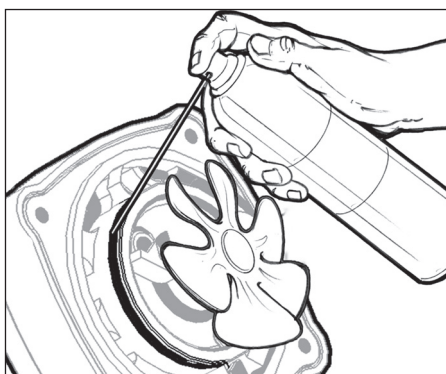

Figure 7
3. In a well-ventilated area, spray the cylinder head with degreaser cleaner. Allow the dirt and debris to drip off onto a rag or cloth (see Figure 7).